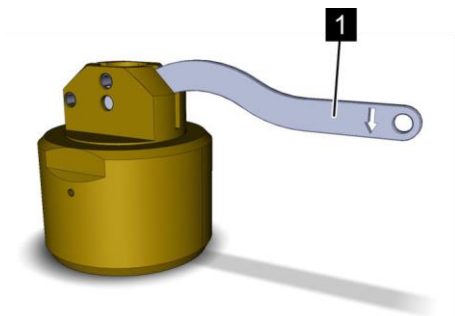

Fig. 169: Hand lever up
5. ➤ Return the hand lever (Fig. 169/1) to starting position.